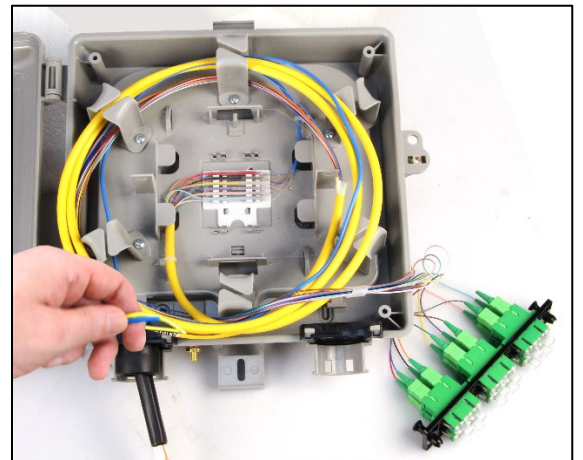

Figure 6
7. Cut pigtail to match length of buffer tube (Figure 6)